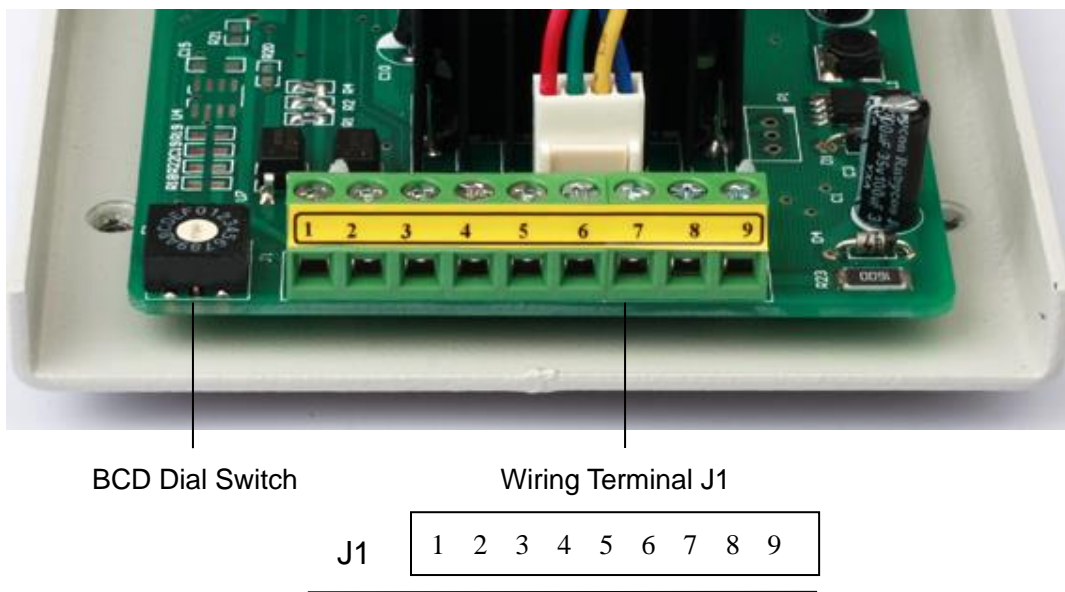

Figure2
The power supply requirement is DC 11.4-25.2V and $\geq 20W$. For the power supply terminal position, please refer to Figure 2 and Table 2 for T100-S300/S301/S302/S303, Figure 3 and
Figure 2 shows BCD dial switch and wiring terminal on control board. Refer to Table 2 for wiring terminal definition.
- 2) Connect the power supply and necessary control signal wire according to Figure 2 and Table 2.